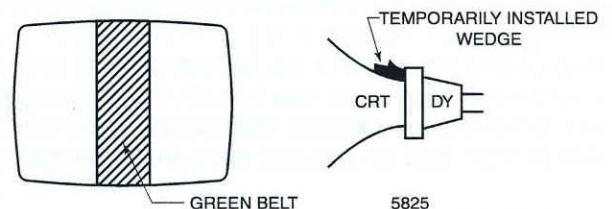

Figure 7
- Pull the Deflection Yoke backward so that the Green belt will appear. (See Fig. 7).
- Turn all three Bias controls fully counterclockwise (CCW). Slowly turn up (CW) the Red Bias control until a Red raster is just barely visible.
- Insert a wedge temporarily as shown in Fig. 7 and adjust the angle of the Deflection Yoke.